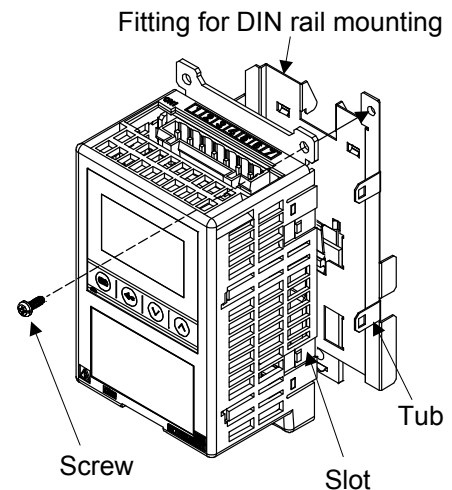

Fig. 2-3-2
1. Install SB1 into the fitting by overlapping the 4 tabs of the fitting and the 4 slots of SB1 until the lock clicks. After installation, insert the supplied screw through the hole on SB1 into the fitting and tighten it firmly. (Fig. 2-3-2)